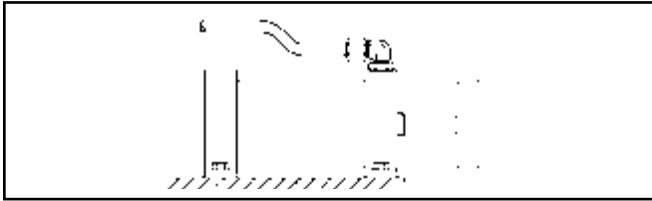

Fig. A23 — Bent Tube Allowing for Motion Under Load
- **Allow for motion under load** — Even some apparently rigid systems do move under load. (See Figure A23.)